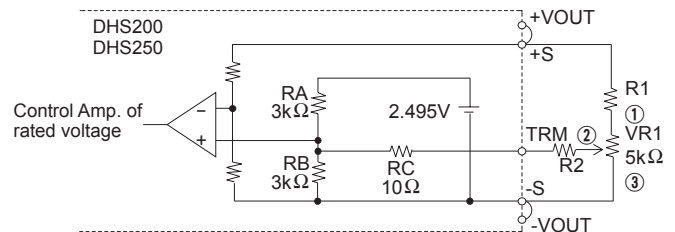

Fig. 4.6 Connecting External Parts (DHS250)
(1) Output voltage adjusting
■ Output voltage can be adjusted by connecting an external potentiometer (VR1) and resistors (R1 and R2) as shown in Fig. 4.6.